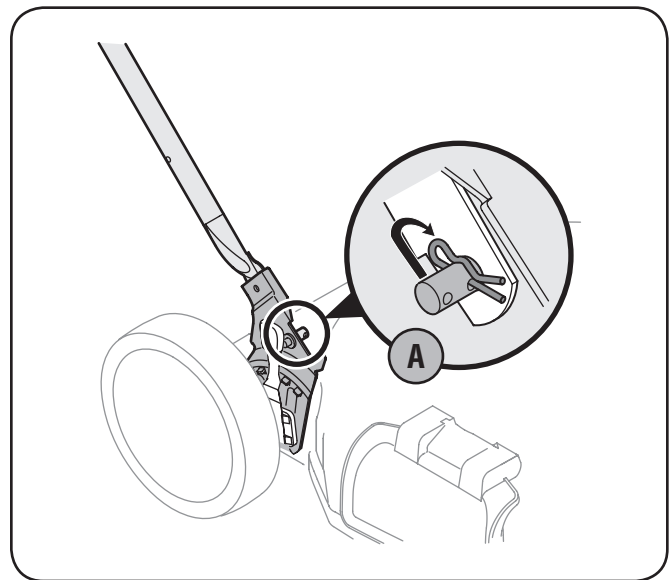

Figure 3-2
- a. Remove hairpin clip from this hole. Using a pair of pliers, insert hairpin clip into the hole on pin closest to the bracket. See Fig. 3-2. Repeat on other side.